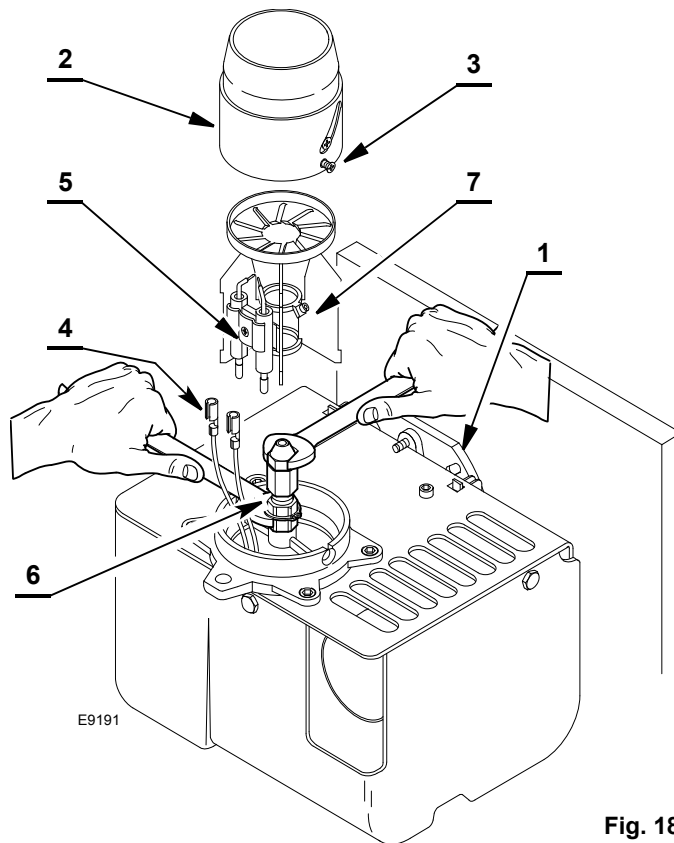

Fig. 18
- loosen the screw (2, Fig. 18).
- Tighten the screw (2).